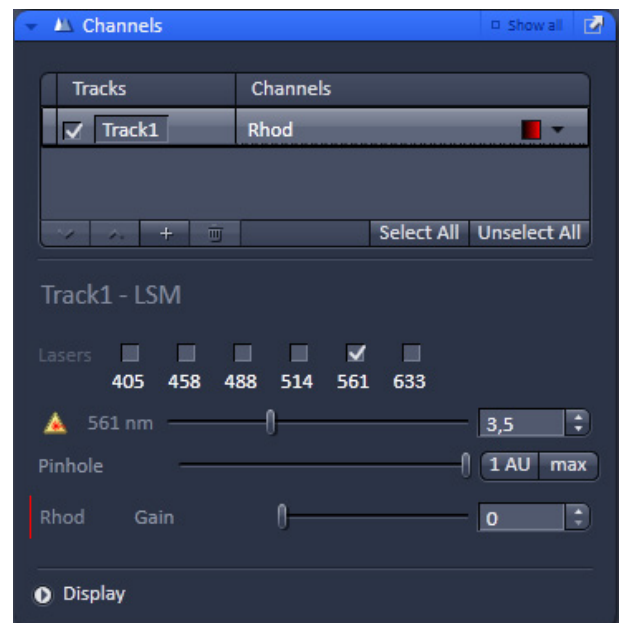

Fig. 225 Channels tool
- Activate the **Channels** tool (Fig. 225).